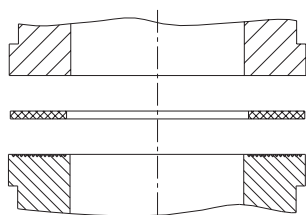

Fig. 2
- Pull the red plug for venting the gear unit during initial operation of the Sigma/ 2 metering pump (refer to Fig. 2, item 10)!
But if such an insert of a connection is not fluted (e.g. third-party part), a flat elastomer gasket has to be used (fig. 2). Otherwise, leakage may occur at this connection.